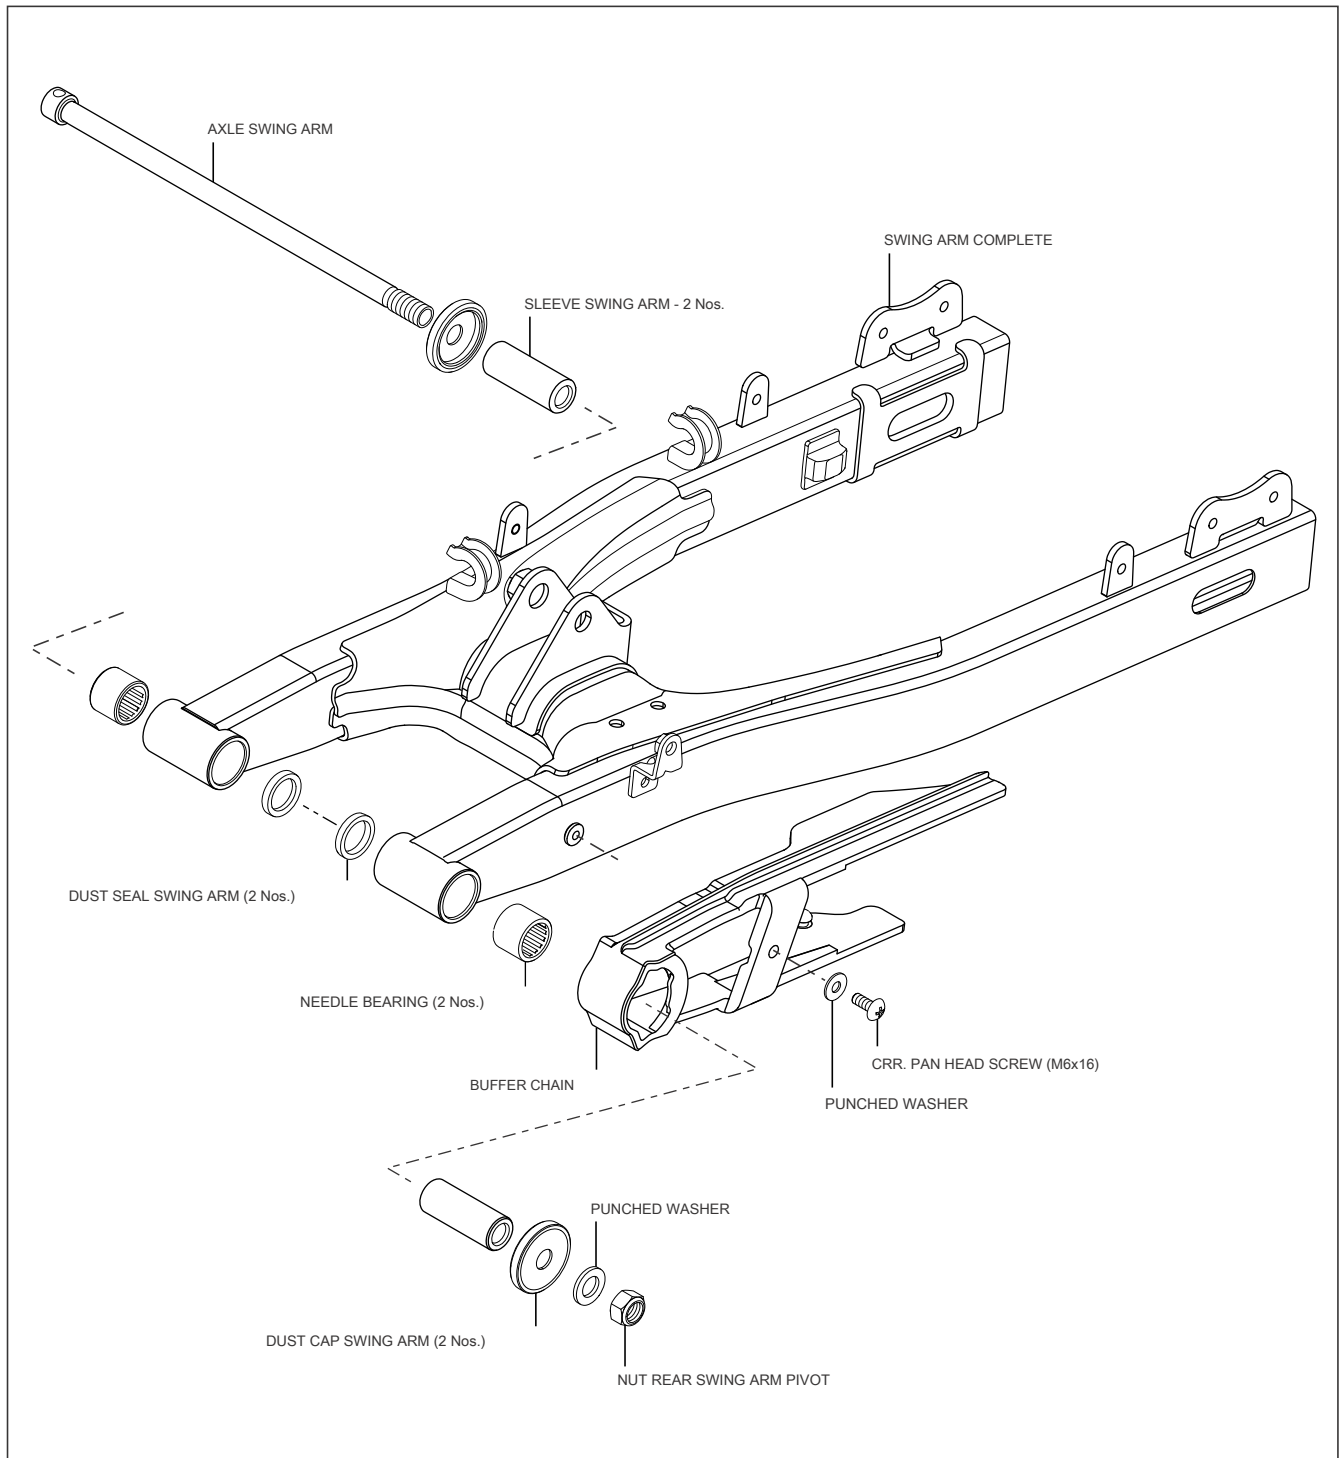

Fig. 6.149
- Reassemble and remount swing arm complete in the reverse order of removal. Refer exploded view for assembly details. (Fig. 6.149)